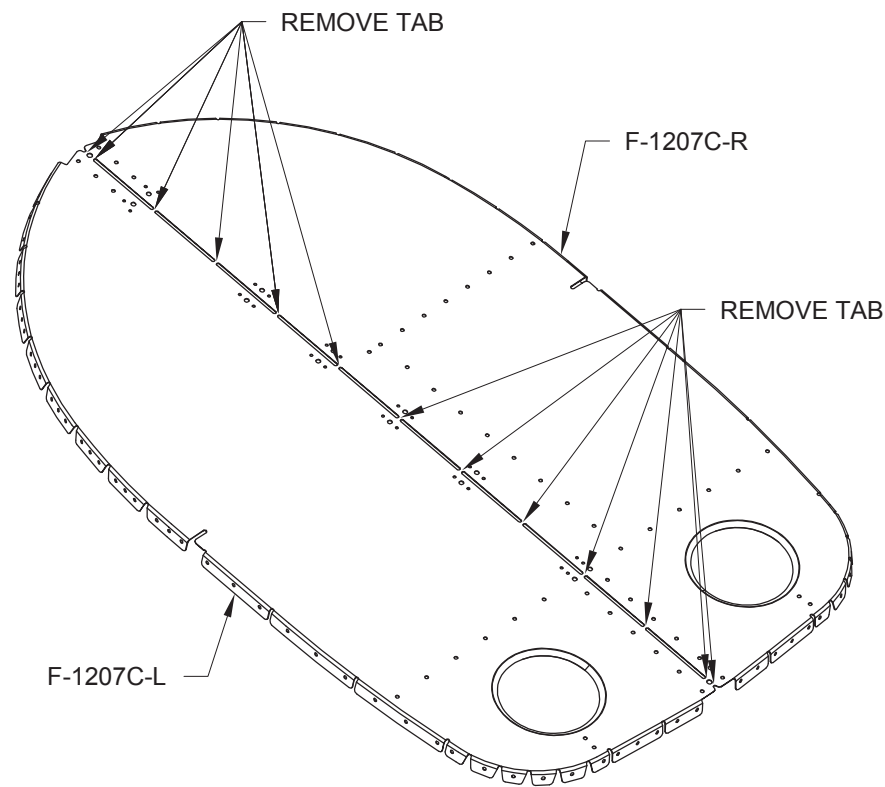

FIGURE 2: SEPARATING F-1207C
Step 6: Separate the F-1207C Baggage Bulkhead into left and right parts as shown in Figure 2.